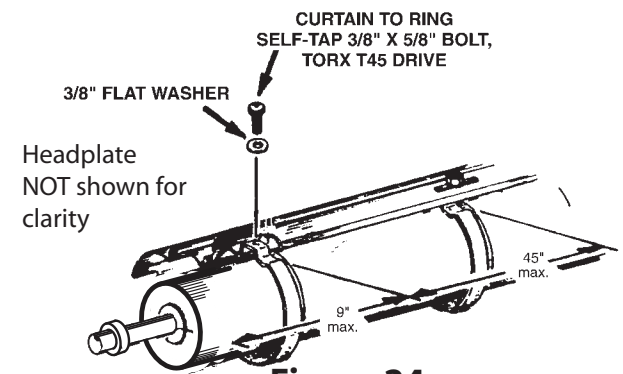

Figure 24
- If the barrel has rings, hold the top slat on the rings and make holes in the top slat aligned with holes in rings. Use drill/driver to attach top slat to rings with 3/8" round head TORX screws and washers provided. Set the drill/driver clutch to minimum torque required to drive screws. DO NOT USE IMPACT WRENCH because it will strip the screw threads in rings. See Figure 24.